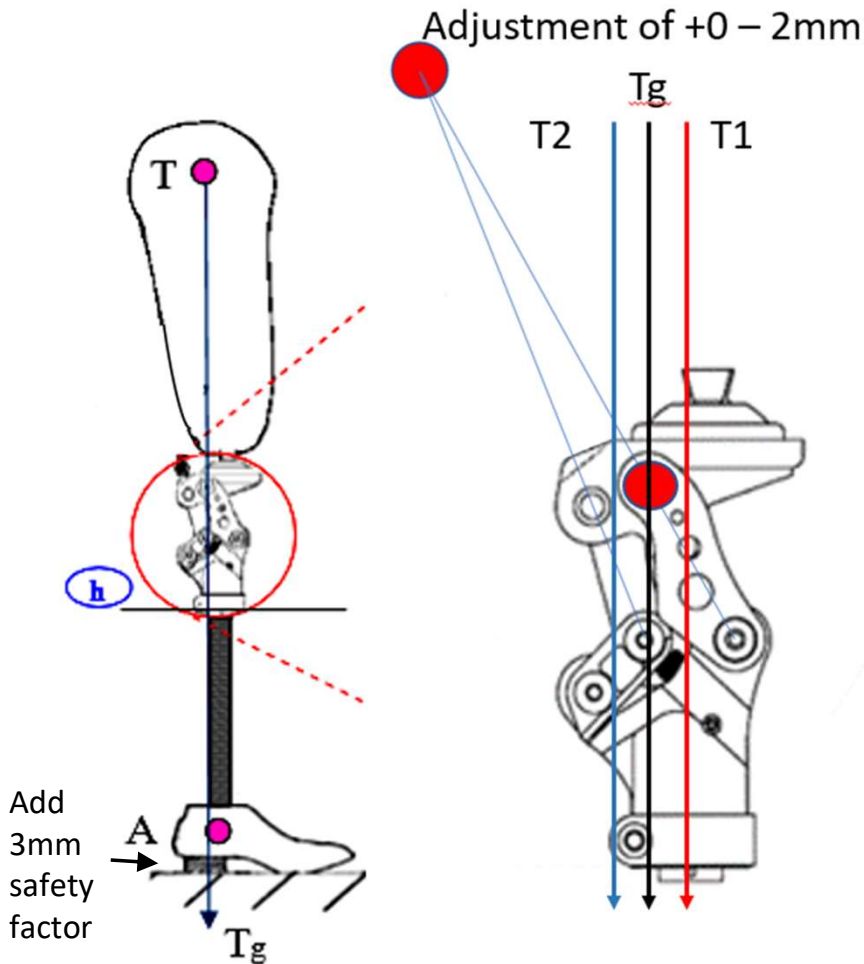
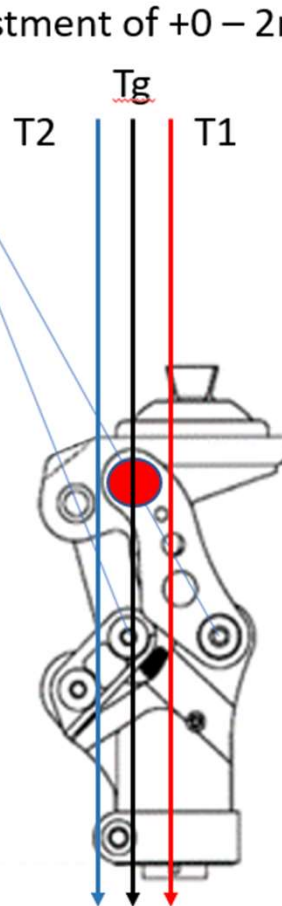

Fig. 2
Fig. 3
⚠️ Note: 4-bar knees inherently are very stable due to the geometry built into each design. This is commonly referred to as the Instant Knee Center (IKC). The IKC point when doing bench alignment, will fall behind the traditional TKA line that we will reference. (Fig. 2,3) Tg line in Fig. 3 is ideal placement, but in certain instances, it may be necessary to accommodate placement anteriorly (into the T1 zone up to 2mm), or posteriorly (into the T2 zone up to 2mm). The Tg line is referencing a moving weight bearing line, so it could be in T1, neutral, or in T2 zones.
- a) With prosthesis assembled, taking into account hip flexion contractures, abduction, Line Of Progression, and toe out (Fig.2), the TKA plumb line should pass through the knee center (at the proximal/anterior pivot – red dot pivot Fig.3) and in front of the K point (IKC). Take into account shoe heel height, and add 3mm safety factor.
d) The weight line for Sagittal or A/P plane should have the plumb line passing through T (Tg) line. Ideally, Tg line should pass through the knee center (red colored pivot) and be perpendicular to the ground. (Fig. 3)
e) **When to use ZONE 1 option** - For the higher weight spectrum patients, Tg line should pass slightly into the “Zone I” area (up to 2mm), which is indicated as up to “T1” (Fig. 3) so that it will reduce stance flexion moment forces of the 5th bar. It is recommended to have controlled stance flexion action of the 5th bar, and not to lock it out or have excessively long duration of it. Excessive stance flexion moment and/or duration can be adjusted through tightening the “Flexion Control Adjusting Screw” in, and/or adjusting alignment (of socket and/or foot) into the T1 zone (up to 2mm). The goal is to have smooth transition from stance flexion to neutral mid-stance motion, and not excessive stance flexion duration.
f) **When to use ZONE 2 option** - For the lighter weight spectrum patients, such as women and children, Tg line should pass slightly into the “Zone II” area (up to 2mm), which is indicated as up to “T2” (Fig.3) so that it will increase stance flexion moment forces of the 5th bar linkage. It is recommended to have controlled stance flexion action of the 5th bar, and not excessively short duration, or abrupt motion of it. Excessive short stance flexion moment and/or duration can be adjusted through loosening the “Flexion Control Adjusting Screw” out, and/or adjusting alignment (of socket and/or foot) into the T2 zone (up to 2mm). The goal is to have smooth transition from stance flexion to neutral mid-stance motion, and not abrupt motion or excessively short stance flexion duration.
It is highly recommended that Tg line should ONLY pass through the "Red Dot". (Fig. 3)